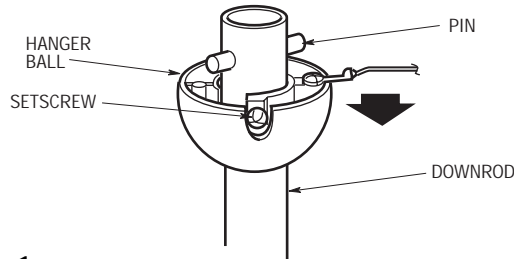

Figure 1
1. Remove the hanger ball by loosening the setscrew in the hanger ball until the ball falls freely down the downrod (Figure 1). Remove the clevis pin from the downrod, then remove the hanger ball. Retain the pin and hanger ball for reinstallation in step 5.